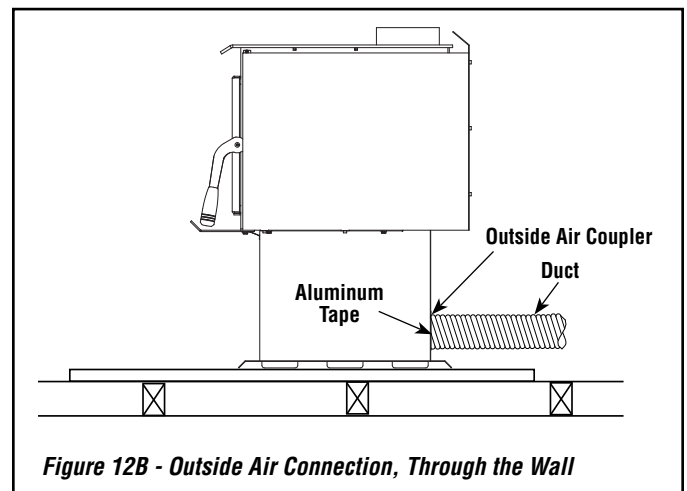

Figure 12B - Outside Air Connection, Through the Wall
- b) The air intake register must not be installed more than ten (10) feet (3050 mm) above the base of the stove.
- Make a 4-1/4" (110 mm) hole in the outside wall of the house at the chosen location. From outside, place the outside air register in the hole (open side down) and fasten the register to the wall, with screws as shown (*see Figures 12B and 13*).